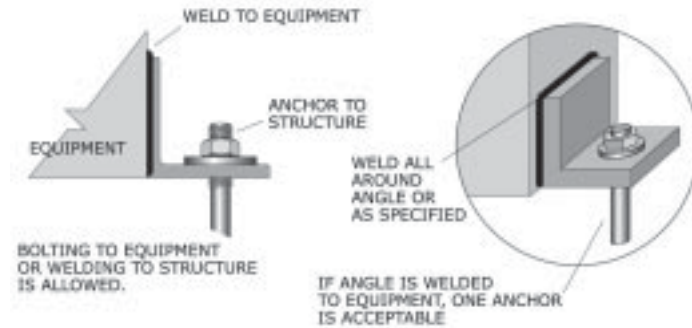

Figure 79: Four or more angles welded to equipment and bolted to the floor/pad.
- Four or more angles welded to equipment and bolted to the floor/pad (Figure 79, page 57).